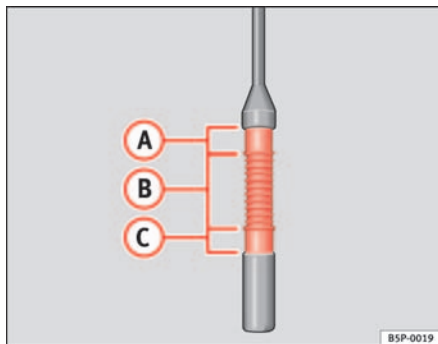

Fig. 160 Engine oil dipstick.
- Pull the dipstick out again and check the oil level ⇒ fig. 160.
If the oil level is in area ⇒ fig. 160 **A**, do not top up with oil.